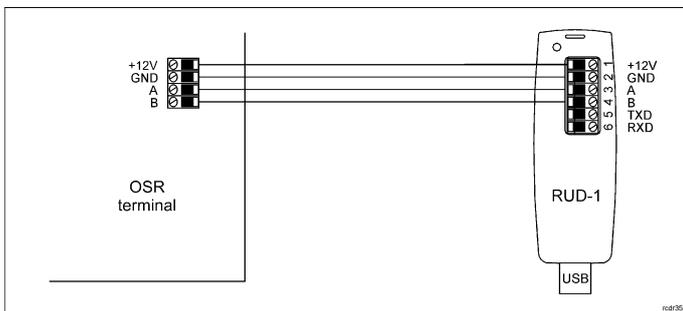

Fig. 1 Connection of OSR terminal to RUD-1 interface
1. Connect the device to RUD-1 interface (fig. 1) and connect the RUD-1 to computer's USB port.
The firmware of device can be changed to newer or older version. The update requires connection to computer with RUD-1 interface (fig. 1) and starting RogerVDM software. The latest firmware file is available at www.roger.pl.